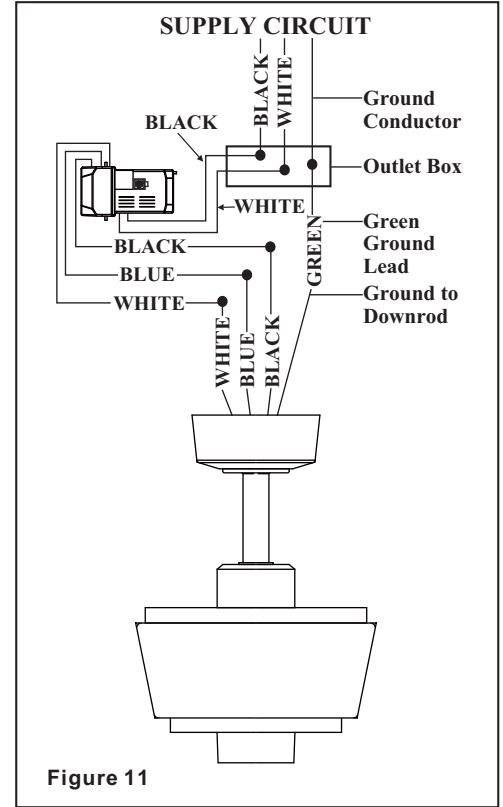

Figure 11
- (Figure 11) Motor to receiver electrical connections: Connect the black wire from the fan to black wire marked "TO MOTOR L". Connect the white wire from the fan to the white wire marked "TO MOTOR N" from the receiver. Connect the blue wire from the fan to the blue wire marked "For Light" from the receiver. Secure the wire connections with the plastic wire connecting nuts provided.
- (Figure 11) Receiver to house supply wires electrical connections: Connect the black (hot) wire from the ceiling to the black wire marked "AC in L" from the receiver. Connect the white (neutral) wire from the ceiling to the white wire marked "AC in N" from the receiver. Secure the wire connections with the plastic wire connecting nuts provided.
- (Figure 11) If your outlet box has a ground wire (green or bare copper) connect it to the fan ground wires; otherwise connect the hanging bracket ground wire to the mounting bracket. Secure the wire connection with a plastic nut provided. After connecting the wires spread them apart so that the green and white wires are on one side of the outlet box and black and blue wires are on the other side. Carefully tuck the wire connections up into the outlet box.